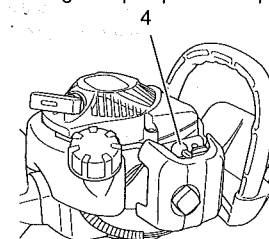

Fig. 4
* Push priming pump (4) several times so that fuel flows through the pump or return pipe. (Fig. 4)